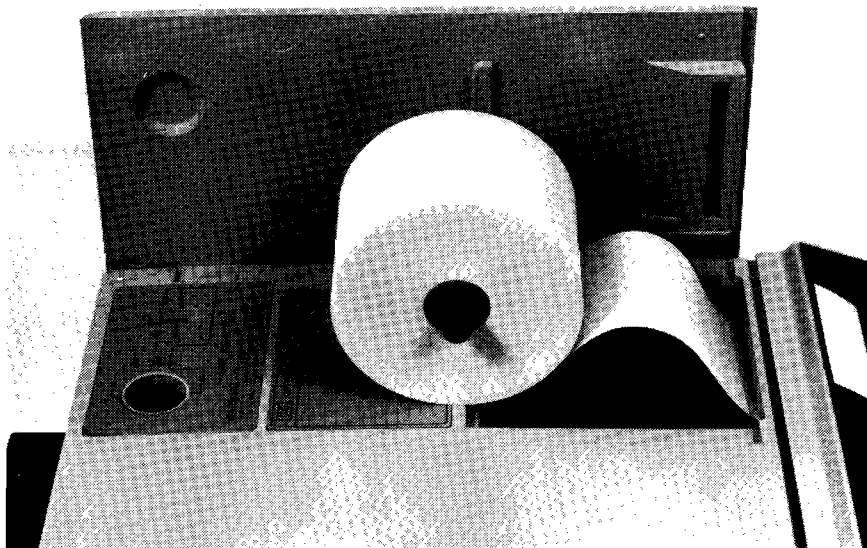

Figure 1-5. Loading Printer Paper
- Position the spindle in the guides so that the paper will unwind from the bottom of the roll (see Figure 1-5).